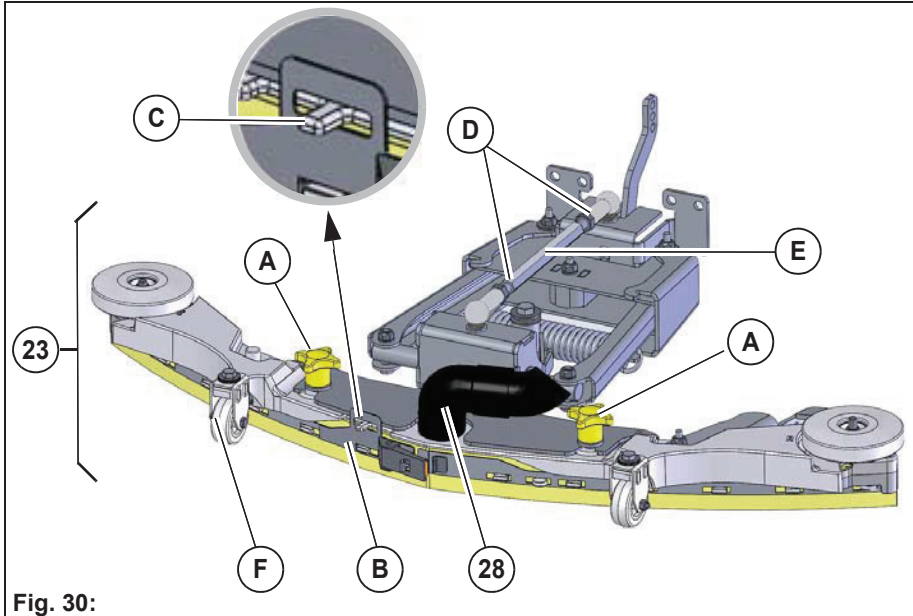
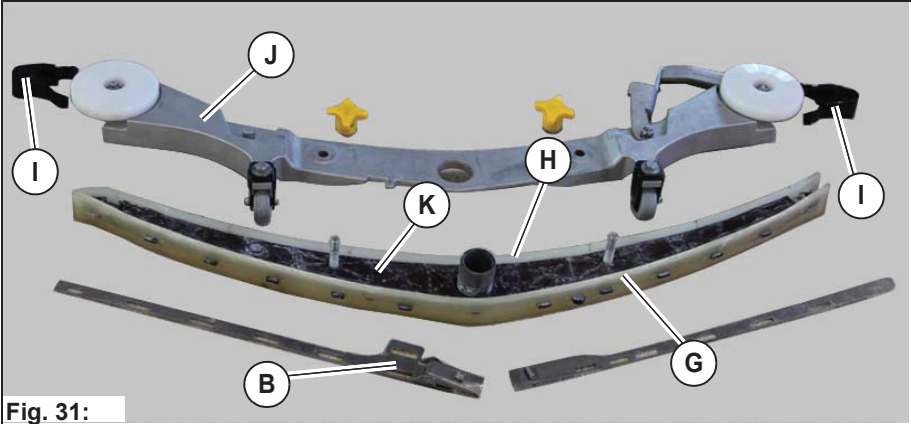

Fig. 30:
Fig. 31:
1. Pull out the suction hose **Fig. 30-28**, loosen the two star-shaped handles **Fig. 30-A** and remove the squeegee.
Check the sealing strip **Fig. 31-G** and slot strip **Fig. 31-H** at the squeegee weekly for wear and intactness. If the used sealing edge of the sealing strip is worn or damaged, turn or replace the sealing strip. Each sealing strip can be used four times before it needs replacing.
2. Loosen the star-shaped handles **Fig. 30-A** and remove the squeegee.
3. Press together the protective caps **Fig. 31-I** and pull them out.
4. Loosen the clamping band **Fig. 31-B** and remove it from the catch **Fig. 30-C**.
5. Pull out the aluminium body **Fig. 31-J** from the top.
6. Remove the sealing strip **Fig. 31-G** and slot strip **Fig. 31-H** from the plastic body **Fig. 31-K**.
2. Loosen the lock nuts **Fig. 30-D** and turn the threaded bar **Fig. 30-E** to adjust the squeegee ensuring both ends of the sealing strips barely have contact with the ground.